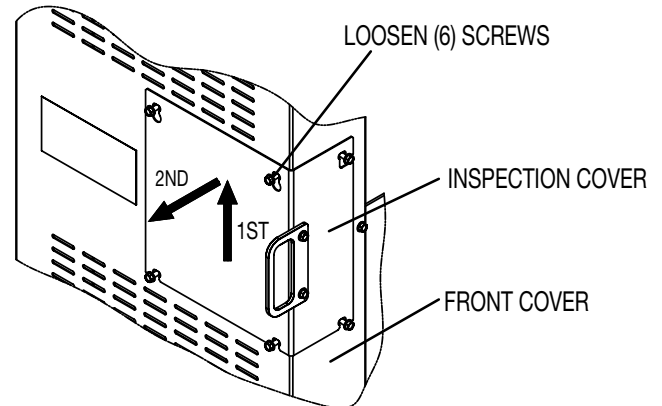

Figure 9 - Equipped with Inspection cover
1. To gain access to the v-belts on belt guards with an inspection cover, loosen, but do NOT remove, the six screws that hold the inspection cover onto the front cover. Refer to Figure 9.